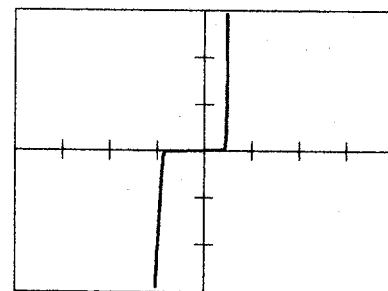

Fig 1
Switch to LED .(1) BLUE S1 See Fig 1.